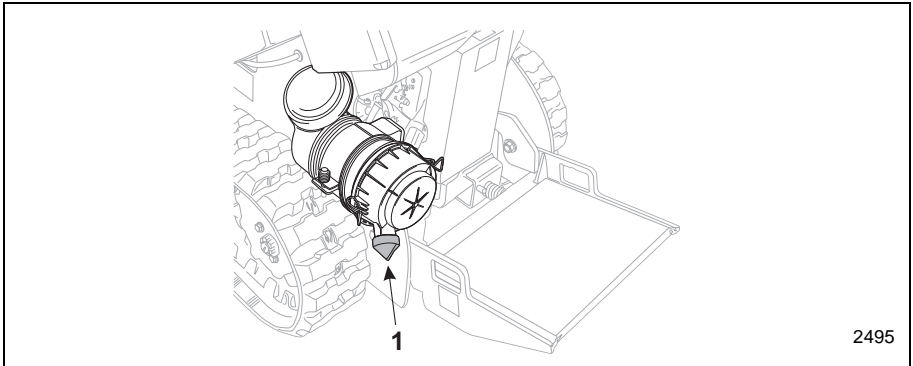

Figure 4-7 Release Dirt from Air Cleaner
7. Release dirt from separator tube at the bottom of the air filter by squeezing the rubber dust ejector valve (Item 1, Figure 4-7) underneath the air filter.